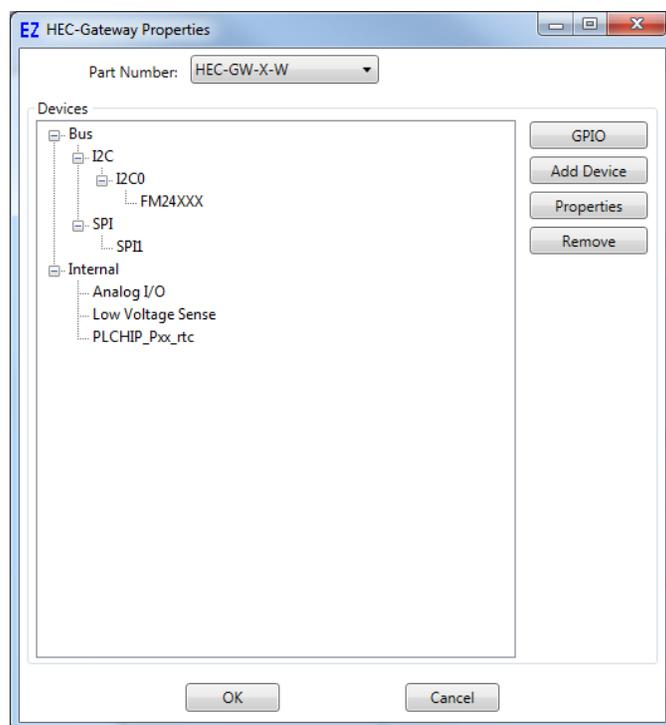

Figure 1-2 - HEC-Gateway Properties Window
3. Using the Drop-down Part Number select box, select the model of the HEC-Gateway from the choices. Refer to Figure 1-2. With the model selected, the Devices pane will update with the currently selected features for the HEC-Gateway. The **ADD DEVICE** button is used to install and configure additional features such as Modbus or J1939 that are not automatically loaded and configured. For this example, we will not add additional features at this time. These features may be installed and configured by re-visiting this window.